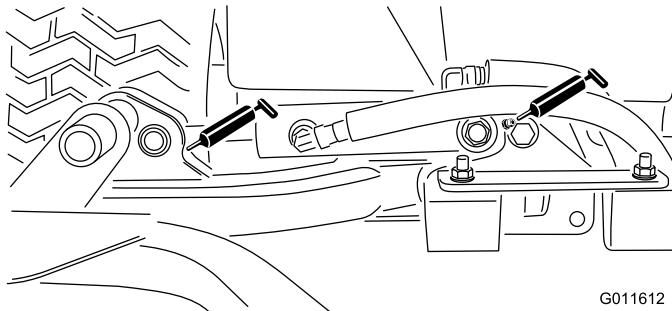

Figure 31
- Lift arm pivots (1 each) (Figure 31)
- Cutting unit lift arm cylinders (2 each) (Figure 31)